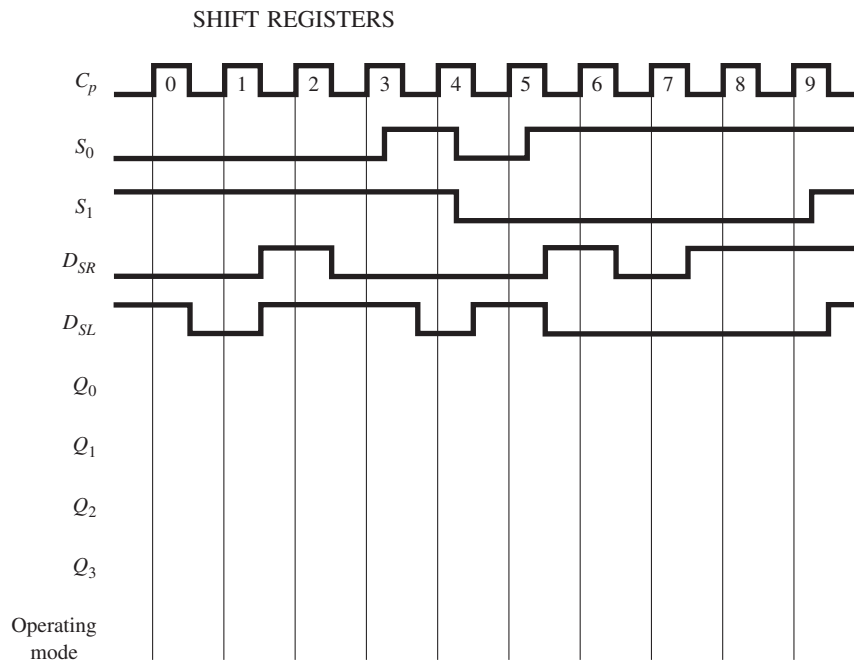

Figure P21
21. Repeat Problem 20 for the waveforms shown in Figure P21.